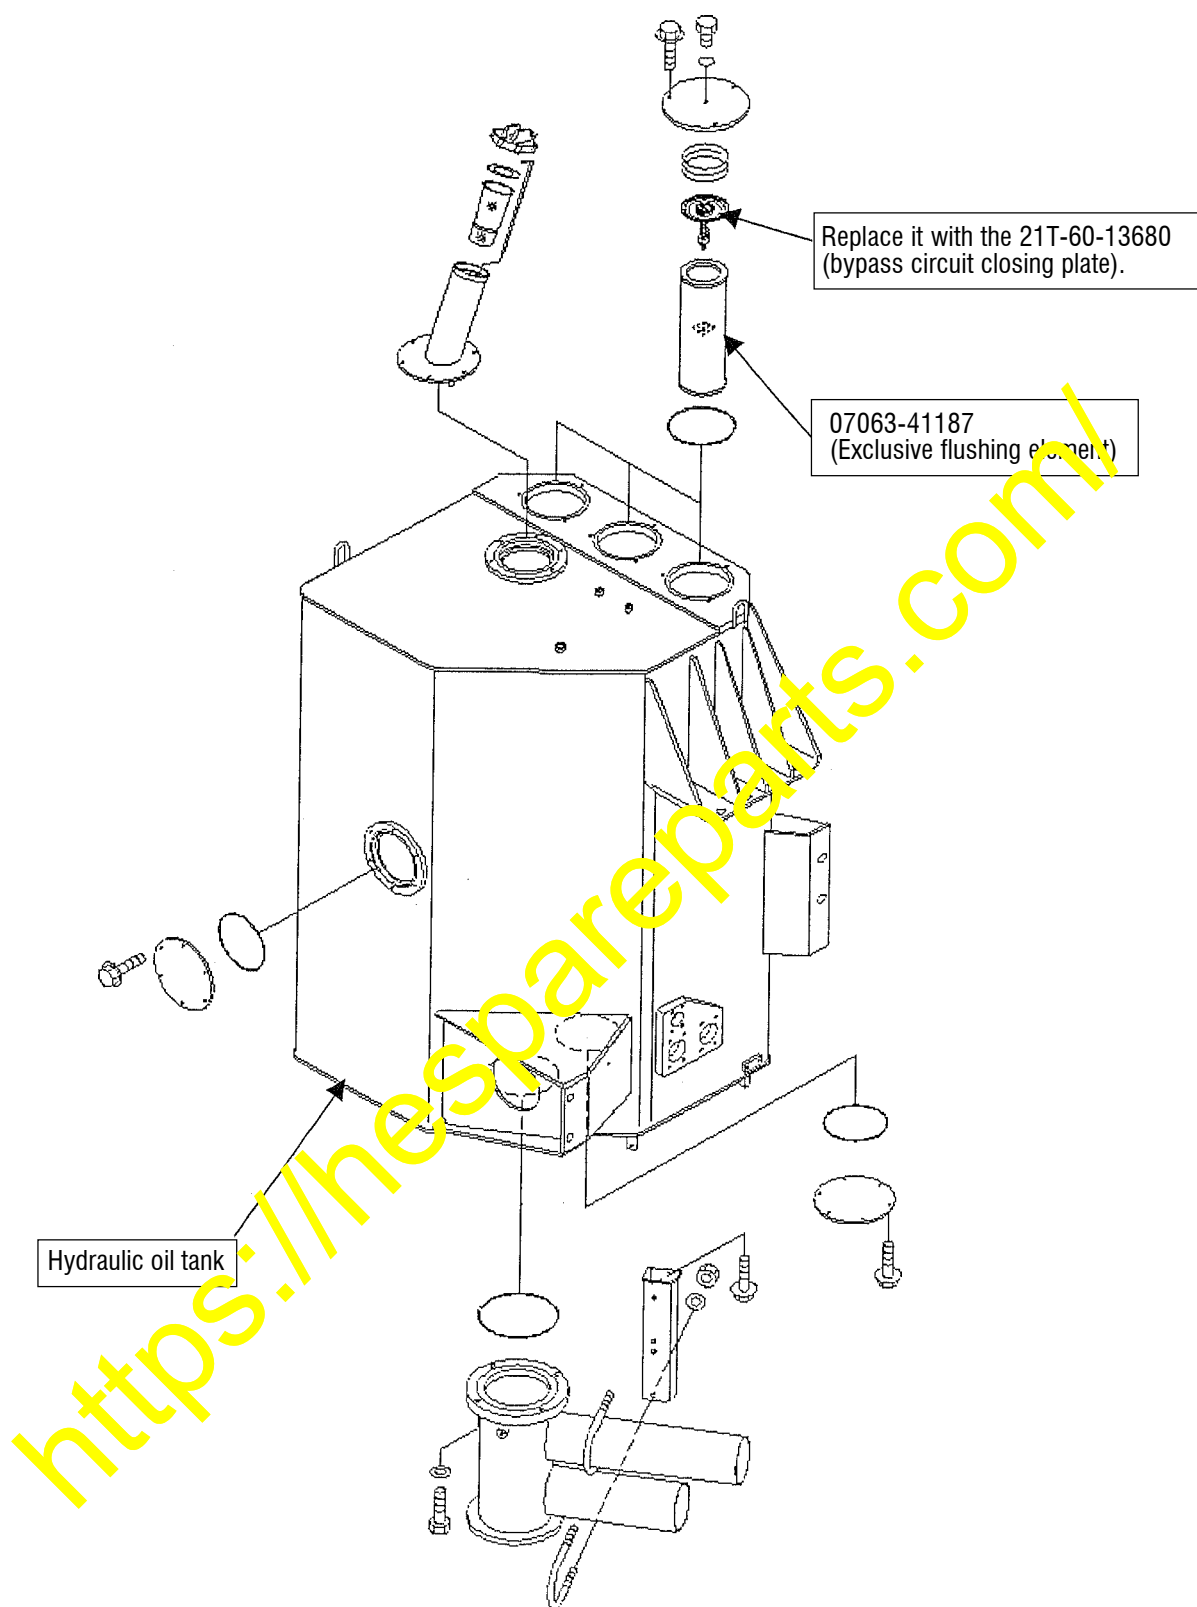

Fig. 2
- 1) Replace the filter element on the hydraulic tank with a one special for flushing (See Fig. 2), Attach the brand-new filter element.
- 2) Replace the filter by-pass valve with a plate for clogging the by-pass circuit. (See Fig. 2)
- 1) Replace the filter element on the hydraulic tank with one special for flushing. (See Fig. 2)
- 1) Replace the filter element on the hydraulic tank with a one special for flushing (See Fig. 2)
- 2) Replace the filter by-pass valve with a plate for clogging the by-pass circuit. (See Fig. 2) .